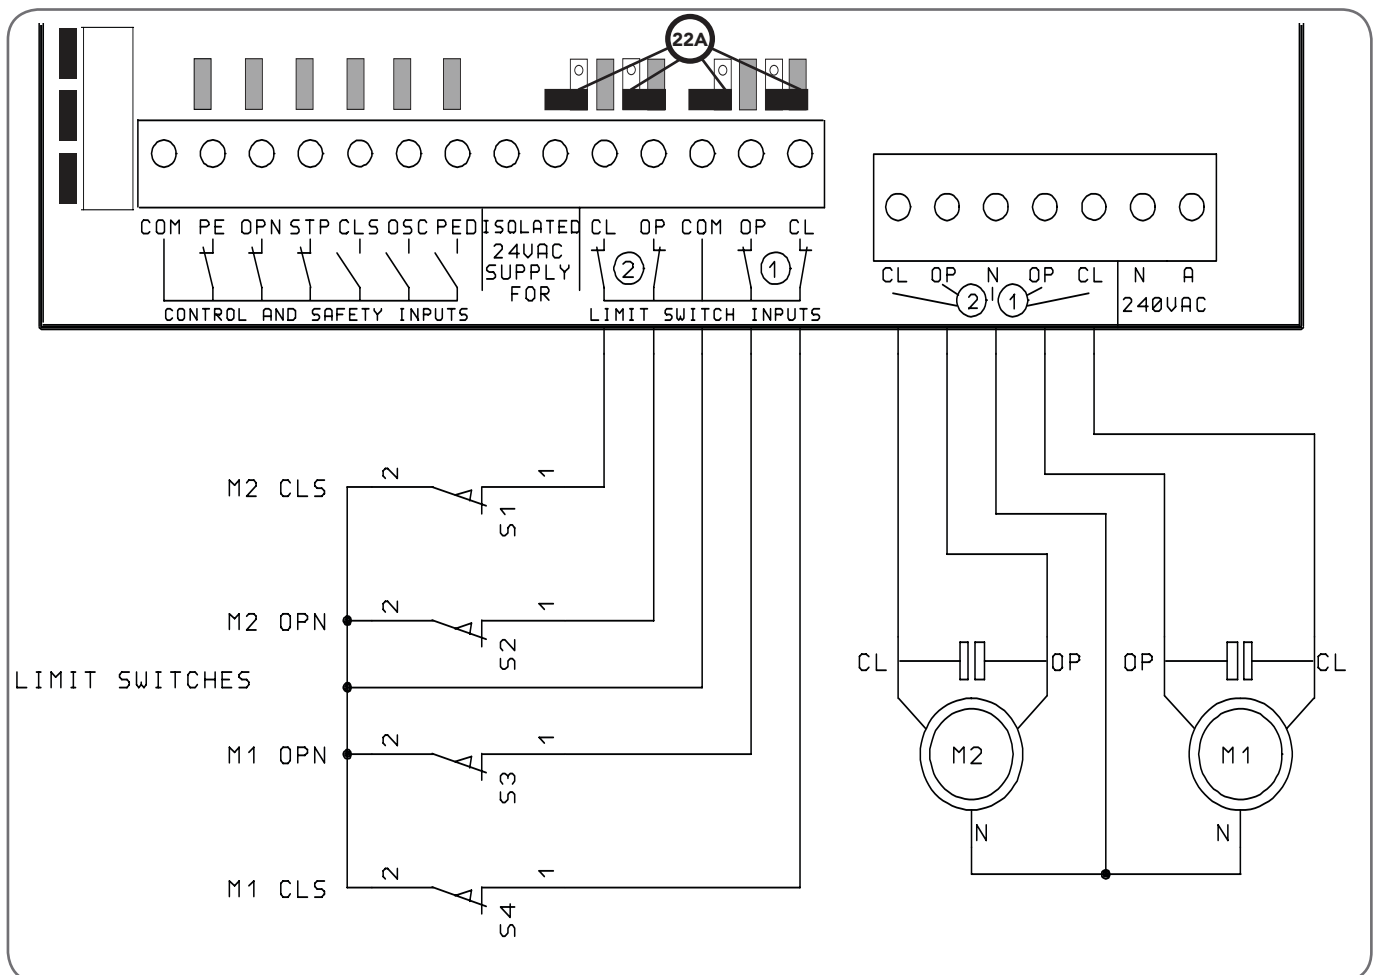

Fig 4.1
- Connect motor and limit switches as per **Fig 4.1**.